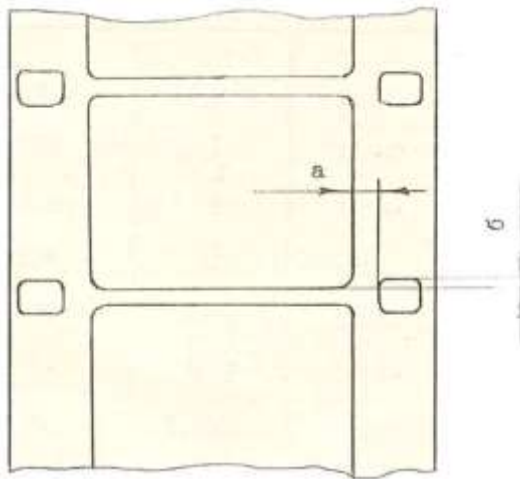

Figure 3. Dimensions used for measuring of the image deviation
- 5) use a microscope to measure sizes 'a' and 'b' (Appendix 2, Figure 3) with not less than  $\pm 0.005$ mm accuracy. Measure a film at the part where speed was stable. Difference between average value of three maximum and three minimum values of 'a' and 'b' will be the image deviance in horizontal and vertical direction. It should not exceed: